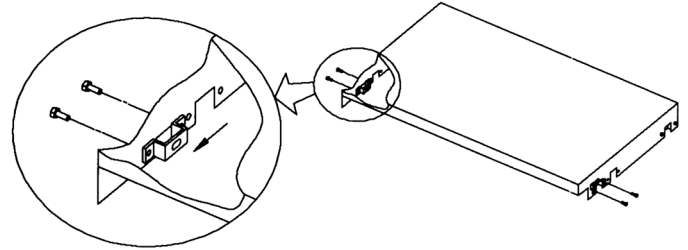

Figure 1. Relocating the mounting brackets on 16.25-inch-deep panelboards.
1. If the drip-resistant cover is to be installed in a 16.25-inch-deep Spectra Power Panelboard enclosure, two cover-mounting brackets must be relocated, as shown in Figure 1. For all other applications, do not move the mounting brackets.